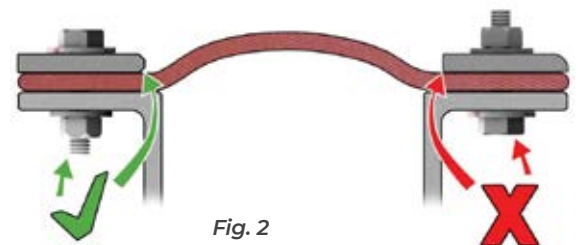

Fig. 2
- Starting from one corner, position the expansion joint flange and one corner section of clamp bar correctly, ensuring that the rounded edges face inwards and towards the flange they are clamping. (See: Fig. 2)